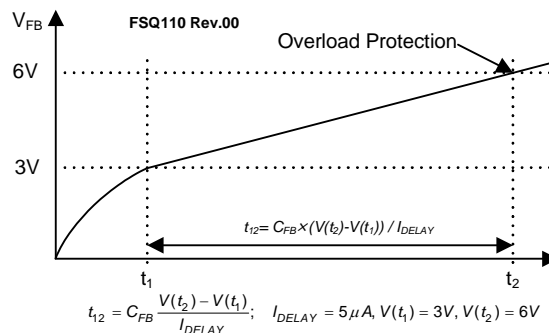

**Figure 14. Pulse Width Modulation Circuit**
**2. Feedback Control:** The FSQ110 employs current-mode control as shown in Figure 14. An opto-coupler (such as the H11A817A) and shunt regulator (such as the KA431) are typically used to implement the feedback network. Comparing the feedback voltage with the voltage across the Rsense resistor of SenseFET, plus an offset voltage, makes it possible to control the switching duty cycle. When the shunt regulator reference pin voltage exceeds the internal reference voltage of 2.5V, the opto-coupler LED current increases, the feedback voltage VFB is pulled down and thereby reduces the duty cycle. This typically happens when the input voltage increases or the output load decreases.
**4.3 Over-Voltage Protection (OVP):** In the event of a malfunction in the secondary-side feedback circuit or an open-feedback loop caused by a soldering defect, the current through the opto-coupler transistor becomes almost zero (see Figure 14).  $V_{FB}$  climbs up in a similar manner to the overload situation, forcing the preset maximum current to be supplied to the SMPS until the overload protection is activated. Because excess energy is provided to the output, the output voltage may exceed the rated voltage before the overload protection is activated, resulting in the breakdown of the devices in the secondary side. To prevent this situation, an Over-Voltage Protection (OVP) circuit is employed. In general,  $V_{CC}$  is proportional to the output voltage and the FPS uses  $V_{CC}$  instead of directly monitoring the output voltage. If  $V_{CC}$  exceeds 19V, the OVP circuit is activated, resulting in termination of the switching operation. To avoid undesired activation of OVP during normal operation,  $V_{CC}$  should be designed to be below 19V.